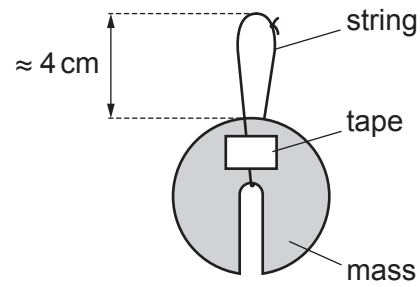

Fig. 1.2
- 3 Use tape to attach a loop of string to the 100 g mass as shown in Fig. 1.2.